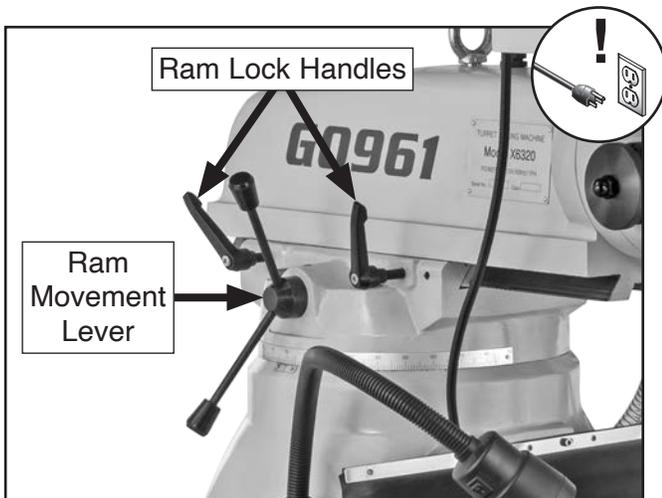

Figure 26. Ram movement controls.
2. Loosen ram lock handles shown in **Figure 26**.
3. Rotate ram movement lever (see **Figure 26**) to move ram until spindle is in desired position.
4. Tighten ram lock handles (see **Figure 26**) to secure ram movement before resuming operation.